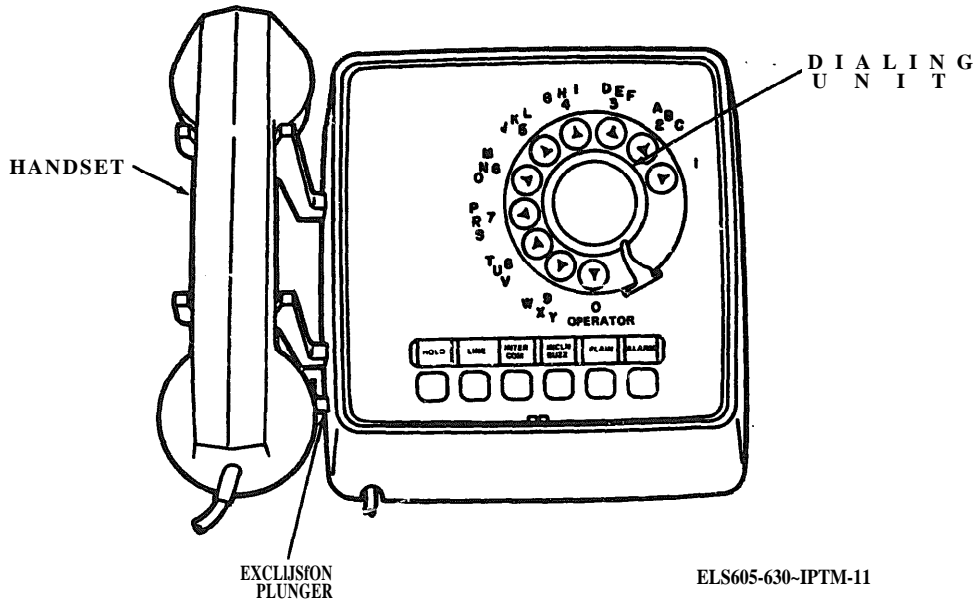

Figure 3-2. Extension Telephone Set, type 186 and 186A controls.
*b. Extension Phone (fig. 3-2)*